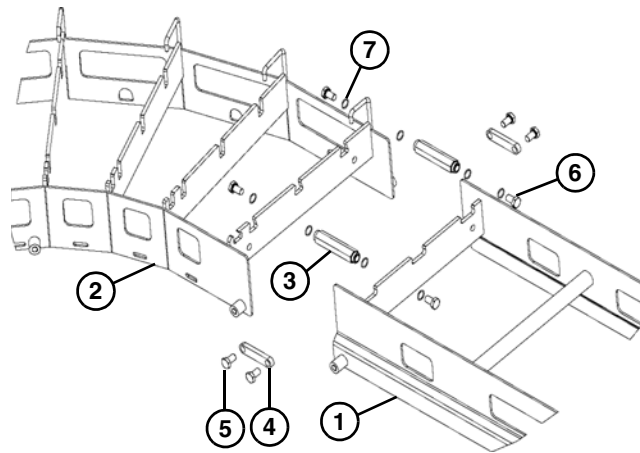

Figure 4
Typical Connection Components (**Figure 4**)
3. Connect the frame sections by bolting the hex post connectors (**Figure 4, item 3**) with O-rings (**Figure 4, item 7**) to the cross member supports of each frame section.
4. Attach the flat connectors (**Figure 4, item 4**), if applicable, to the inside of the frame sections.